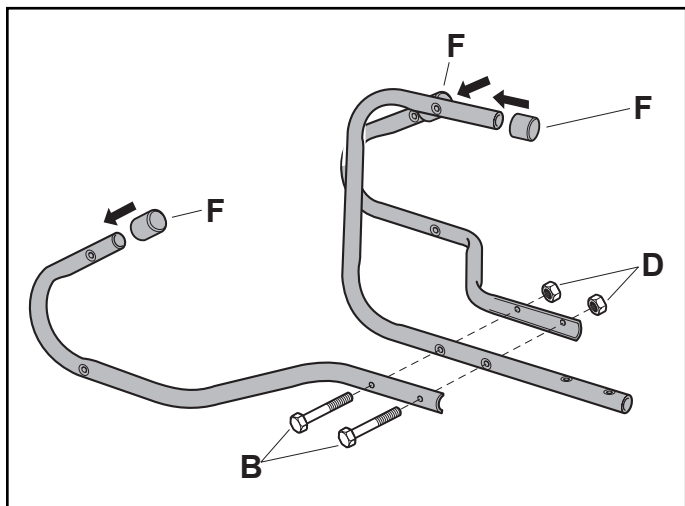

FIGURE 5
- Assemble the (RH) and (LH) hitch tubes to the control tube using two 1/4" x 1-3/4" hex bolts (B) and 1/4" nylock nuts (D). **Tighten.** See figure 5.
- Assemble the plastic caps onto the ends of the hitch tubes and control tube as shown in figure 5.